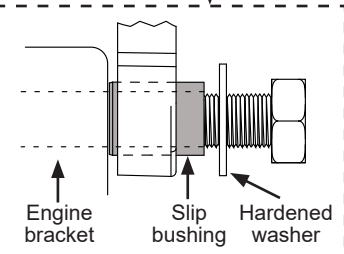
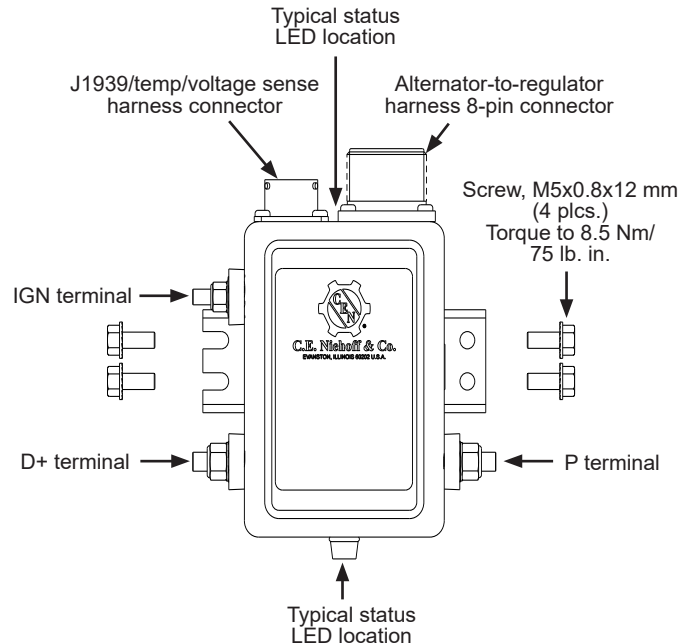

Figure 1: C736/C736L Alternator Installation
Figure 5: Typical 28V Regulator Connections/Features
2. Install pulley with furnished disc spring washer (with beveled side facing pulley) and flange nut. Torque pulley nut to 163 Nm/120 lb. ft. See Figure 1.
CAUTION Slip bushings in rear mounting foot must be tightened against mounting bracket to prevent damage to mounting feet and bracket. See Figure 1 detail image.
2. Mount regulator on alternator anti-drive end (ADE) housing as shown in Figure 1 with included hardware shown in Figure 5. Alternatively, regulator may be mounted remotely with compatible extension harness¹. Torque screws to 8.5 Nm/75 lb. in.
3. Securely plug alternator-to-regulator harness from alternator into receptacle on regulator. See Figure 5 for receptacle locations.
- **IGNE terminal** (required) must receive battery voltage from vehicle switched DC ignition source or multiplex in order to energize regulator. Torque terminal hardware to 4.5 Nm/40 lb. in. See Figure 5.
- **P terminal** (if required) taps AC voltage from alternator, typically half the charge voltage (5A maximum). P terminal provides alternator RPM frequency at 10:1 ratio for use with tachometer. Torque terminal hardware to 4.5 Nm/40 lb in. See Figure 5.
- If using a J1939/temperature/voltage sense harness, plug J1939/sense harness into J1939/sense receptacle on regulator. See Figure 5 for receptacle location. Refer to instructions included with harness for more information. Harness/sensors available separately².